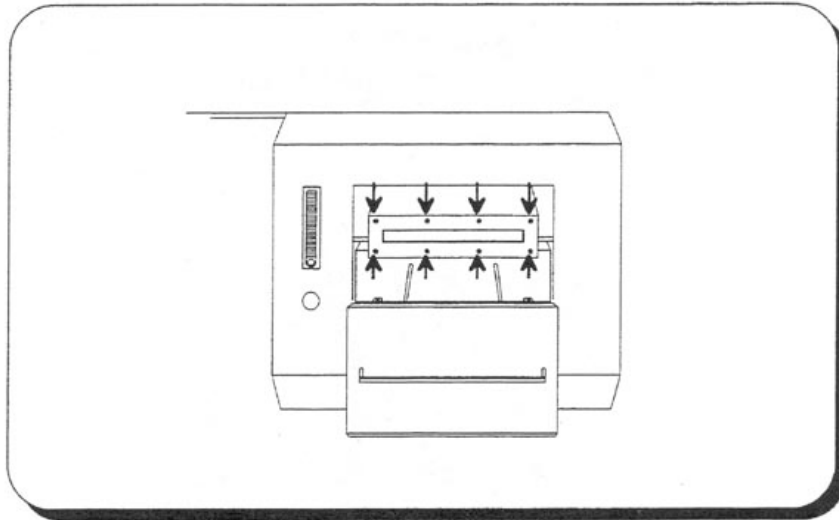

Figure 4-7. Front Flange Screw Locations
2. Remove the eight flange screws on the door flange plate (see **Figure 4-7**). Be careful not to drop the O-ring inserted in the groove on the surface of the plate. Allow the flange to rest on the door rails.